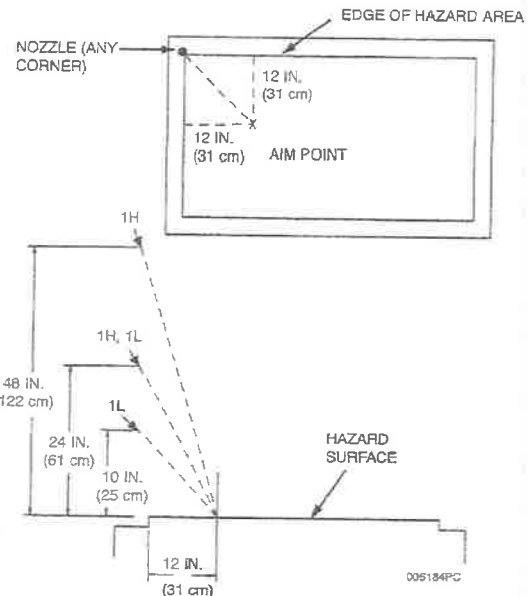

Figure 3-8.
The 1H nozzle, Part No. 551029, is used for high proximity griddle protection. This nozzle is a one (1) flow nozzle. The nozzle must be located **above any corner** of the hazard surface, 24 in. to 48 in. (61 to 122 cm) above the cooking surface of the appliance and aimed at a point 12 in. (31 cm) over and 12 in. (31 cm) in from the corner below the nozzle. See Figure 3-8.
The 1L nozzle, Part No. 551026, is used for low proximity griddle protection. This nozzle is a one (1) flow nozzle. The nozzle must be located **above any corner** of the hazard surface, 10 in. to 24 in. (25 to 61 cm) above the cooking surface of the appliance and aimed at a point 12 in. (31 cm) over and 12 in. (31 cm) in from the corner below the nozzle. See Figure 3-8.